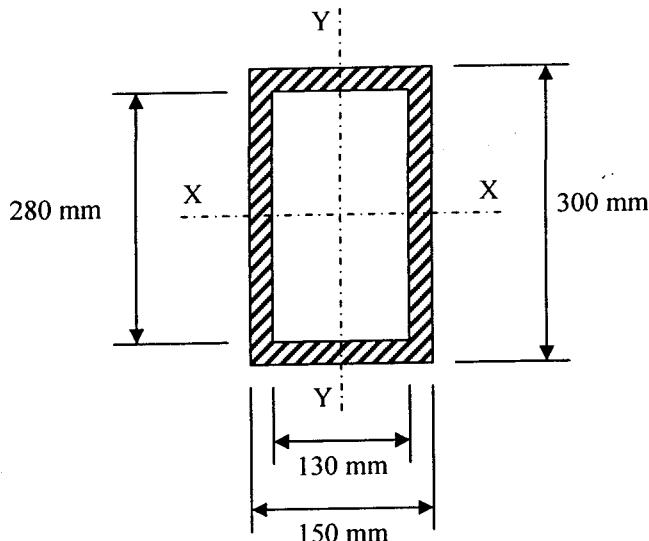

Figure 7
- (b) A rectangular section 5.5 m long as shown in Figure 7 is to be used as a column with both end fixed. The actual length of the column is 5.5 m. Take modulus of elasticity as 200 GPa.